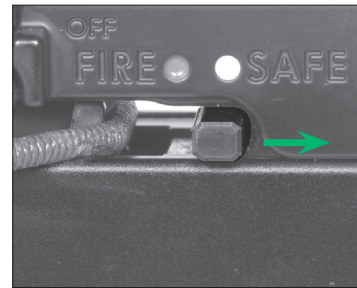

FIGURE 13
- 1b Slide the safety switch from the FIRE position to the ON SAFE position. (Fig. 13)
- 1d Carefully inspect the safety switch to ensure that it is fully in the ON SAFE position (Fig. 13). If the safety switch has not moved all the way back to the WHITE dot, it has not been placed ON SAFE and is still in FIRE position. Always visually inspect the safety switch to make certain that it is in the desired position.
- 1h Continue drawing until the trigger safety switch moves to the "ON SAFE" position. (Fig. 13)